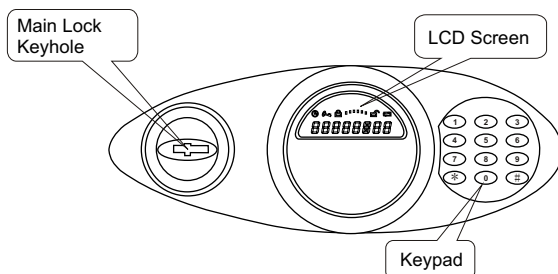
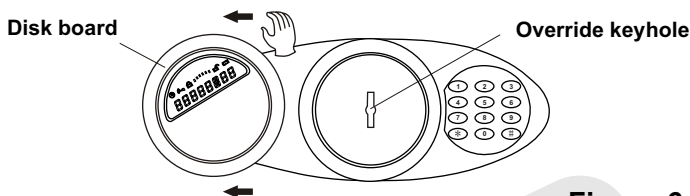

Figure 4 Panel
Figure 6
- ☐ Turn the LCD mounting disc counterclockwise and remove it from the panel (Figure 6, P.7 in User's Manual). Locate the override keyhole behind the disc. Insert the override key (Figure 3, P. 4 in User's Manual) into its keyhole and turn it clockwise to the end, then insert the lock key into the door-opening keyhole (Figure 4, P. 4 in User's Manual) and turn it clockwise to the end, turn the handle (or knob) clockwise to open the door.
Insert the main key into the main lock keyhole (See Figure 3 and Figure 4) in the panel.